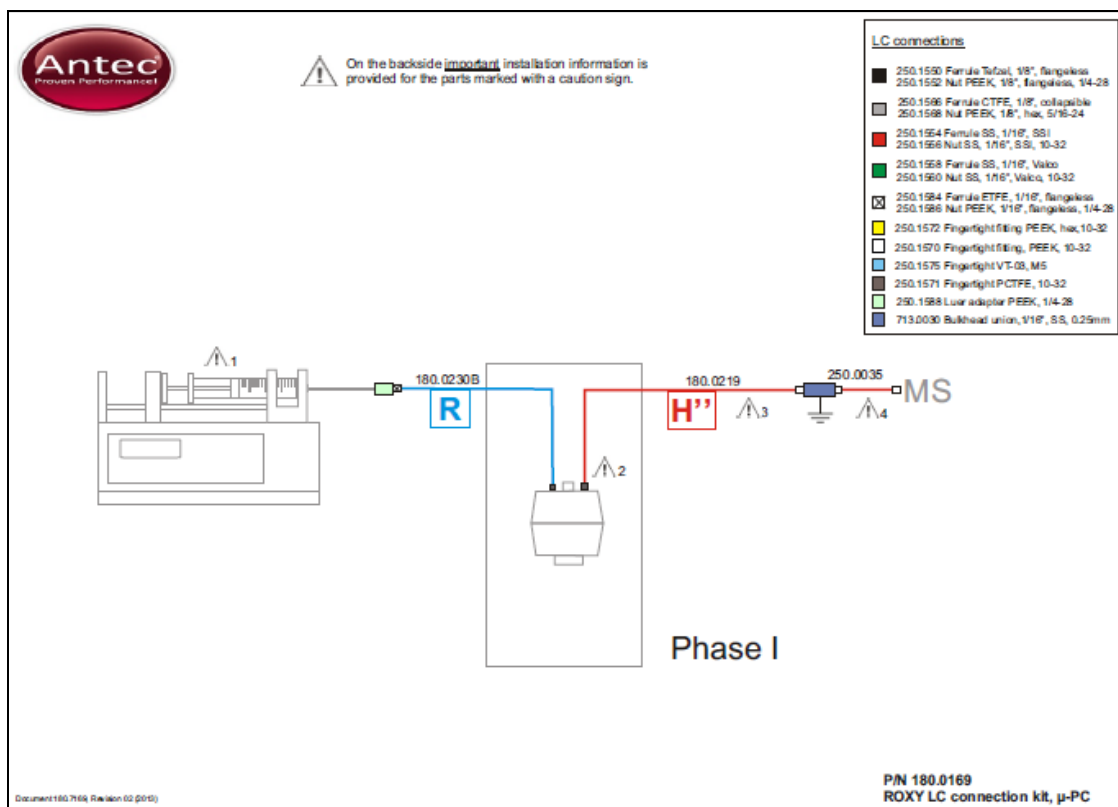

Fig. 4. The schematic of installation of LC connections (180.7169).
2. The schematic drawing how to connect the inlet and outlet tubing with the cell and to place the grounded union is delivered with the ROXY EC system (see Fig. 4).